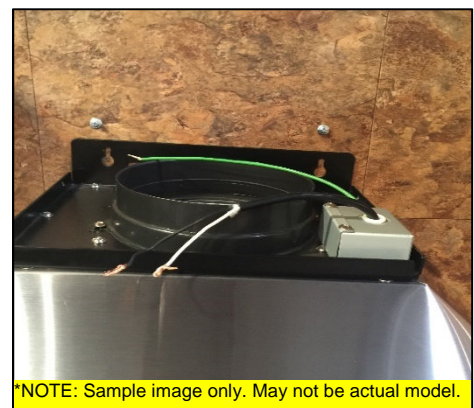

Figure 2
11. Attach the mounting screws on the wall, leaving about 1/8 of an inch between the wall and the end point of the screws since this is where you will hang your hood. Refer to Figure 2.